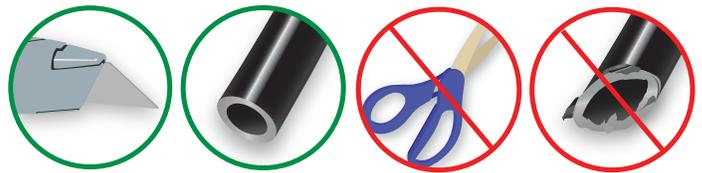

fig. 8
1. Cut the air line in half. Make clean, square cuts with a razor blade or hose cutter (Fig. 8). Do not use scissors or wire cutters.